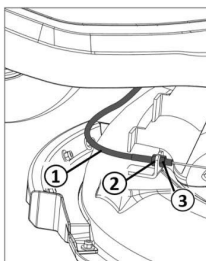

Figure 41
- To adjust the Bowden cable (Figure 41 ①), loosen the two nuts (Figure 41 ② and ③).
- If the mowing mechanism can no longer be switched on correctly, loosen the nut (Figure 41 ③) and adjust the Bowden cable with the nut (Figure 41 ②) until the mowing mechanism can be switched on correctly again.
- If the mowing mechanism can no longer be switched off correctly, loosen the nut (Figure 41 ②) and adjust the Bowden cable with the nut (Figure 41 ③) until the mowing mechanism can be switched off correctly again.